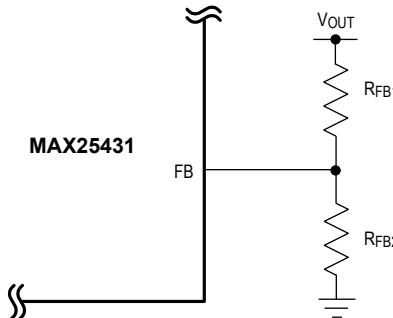

Figure 1. Setting the Output Voltage for the MAX25431
Connect FB to  $V_{CC}$  to enable the fixed output voltage (5V) set by a preset internal resistive voltage-divider connected between the feedback (FB) pin and AGND. To externally adjust the output voltage between 4V and 25V, connect a resistive divider from the output (OUT) to FB to AGND (Figure 1). Calculate RFB1 and RFB2 with the following equation: